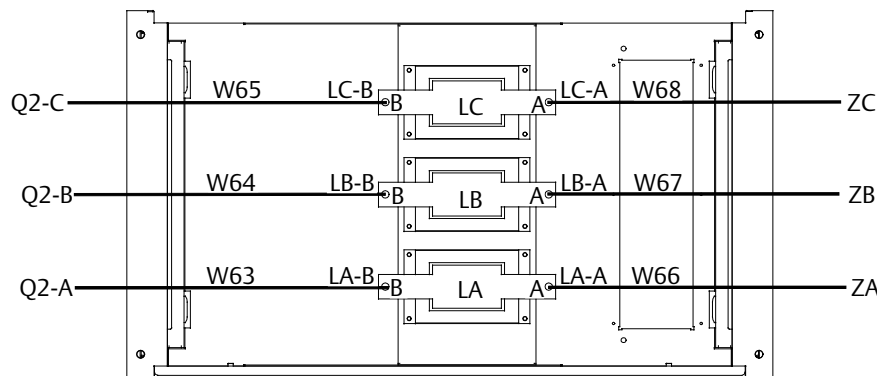

Figure 8-3 Cable connection
1. Connect the cables W63, W64, W65, W66, W67 and W68 between the copper bars Q2-A, Q2-B, Q2-C, ZA, ZB, ZC and the inductors LA, LB and LC, as shown in Figure 8-3. Use six M10 × 30 screws, six flat washers, six spring washers and six M10 nuts to connect the cables to the inductors, and use the screws and nuts removed in step 4 to connect the cables to the copper bars.